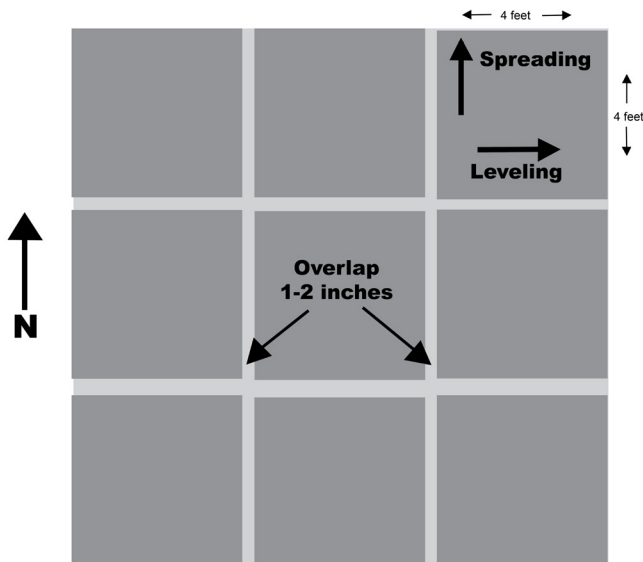

Figure 1
5. Without re-wetting the applicator, level the product by going back and forth (east-west direction see figure 1) over the applied seal.